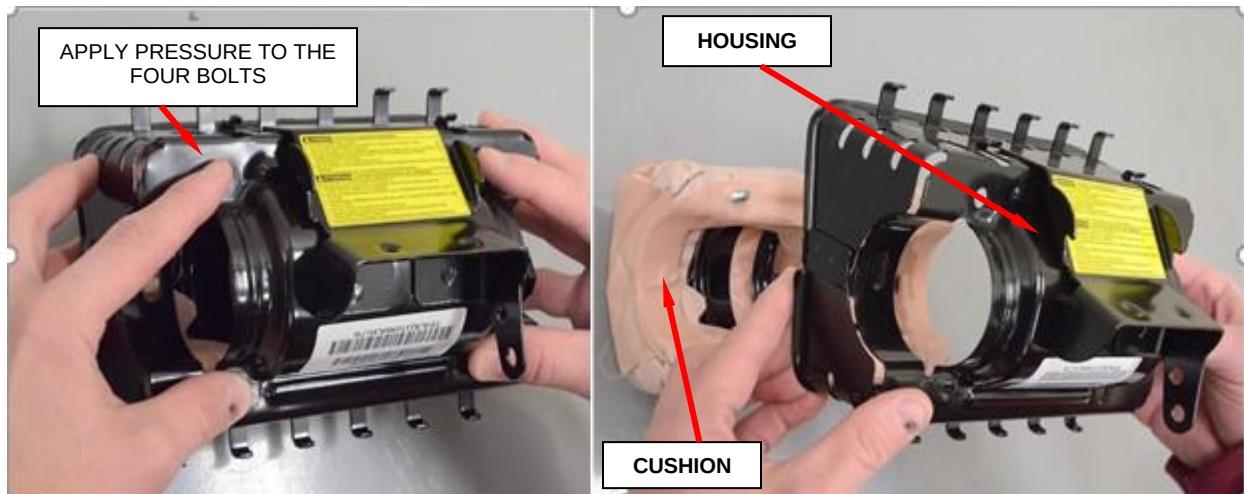

Figure 49 – Remove Airbag Cushion from Housing
h. Remove airbag cushion from housing by applying pressure to the bolts, set cushion aside (Figure 49).